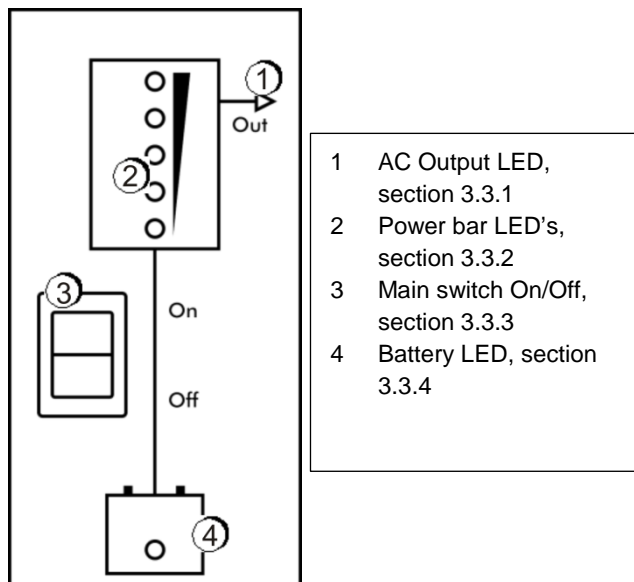

Figure 3-3: Front panel
See figure 3-3. The operation of the Mass Sine Ultra is controlled by the main On/Off switch and displayed by means of LED indicators at the front side of the housing. If the Mass Sine Ultra is activated and as long as none of the red indicators are illuminated, no failure is detected and the unit is operating normally.
See figure 3-3 item 1. The illuminated arrow indicates that AC Output is powered.
See figure 3-3 item 2. Every LED indicates 20% of nominal inverter power. If the upper LED illuminates red, the inverter is in overload. On: inverting, Off: not inverting.
See figure 3-3 item 3. The only control on the Mass Sine Ultra itself is the main switch on the front of the unit. This switch controls inverter On and Off. Switching the main switch or an optional remote control panel to the "ON" position activates the Mass Sine Ultra. After switching On, expect a three till five second delay before the unit is activated.
See figure 3-3 item 4. This LED illuminates red when the voltage of the connected battery is too high or low.